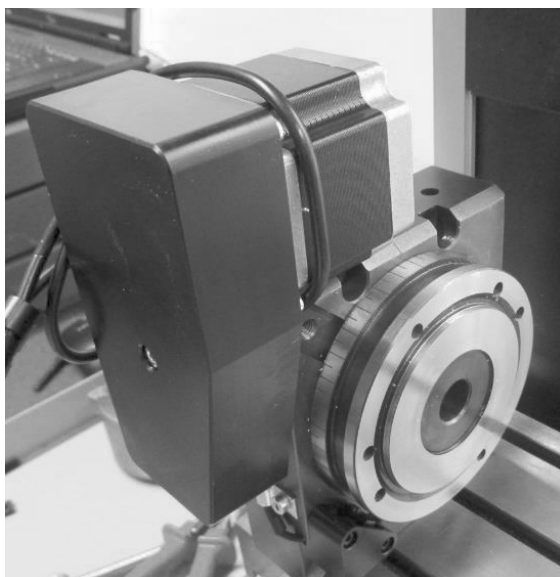

Fig. 9
4. Figures 9 and 10 show the dividing head with two different motor-gear unit positions.